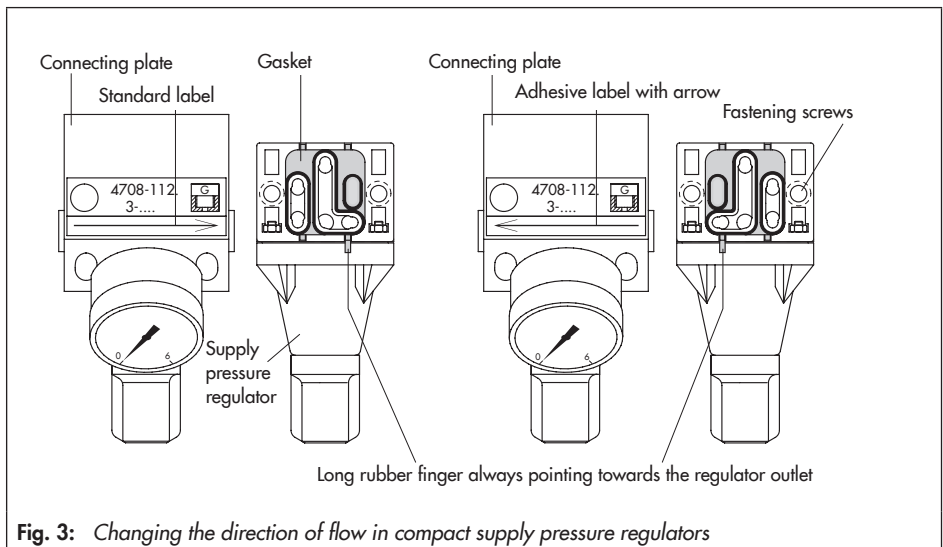

Fig. 3: Changing the direction of flow in compact supply pressure regulators
2. Remove the diverting gasket, turn it 180 degrees and reposition it (Fig. 3).